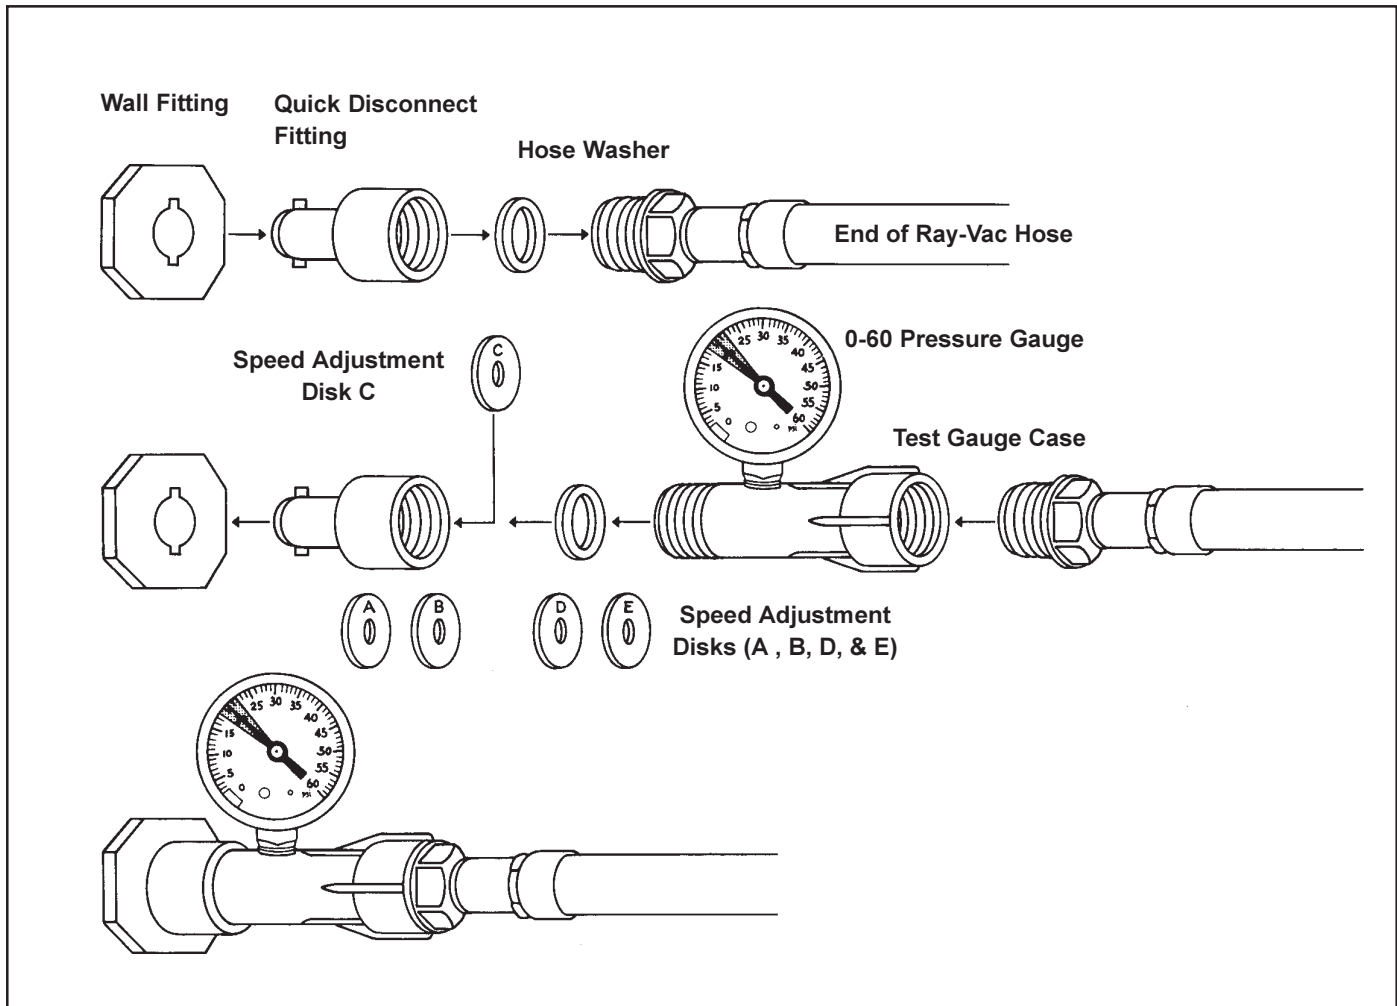

Figure 14. Speed Adjustment
- Unscrew the quick disconnect fitting from the end of the cleaner hose. Remove the hose washer from the quick disconnect fitting (see Fig. 14).